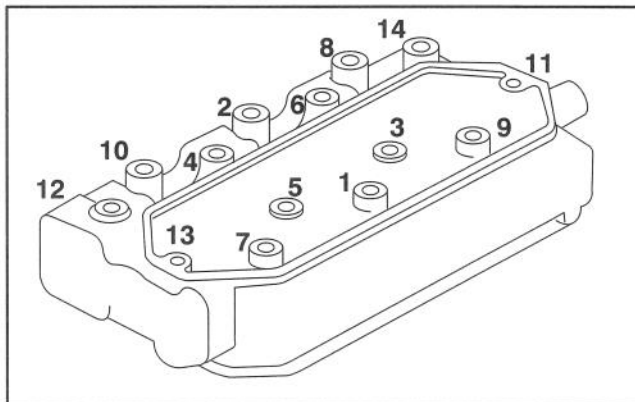

Figure 35
2. Using sequence in figure 35, torque head bolts to 25 ft/lb.